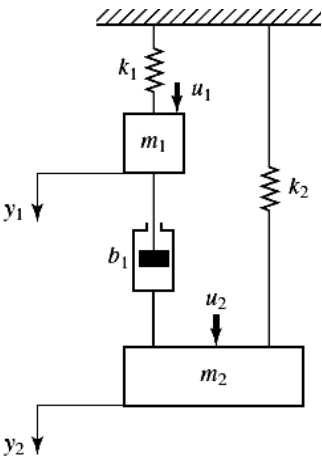

Figure 4
- (b) Obtain a state-space representation of the mechanical system shown in Figure 4. Consider u_1 and u_2 as inputs and y_1 and y_2 as outputs. **07**